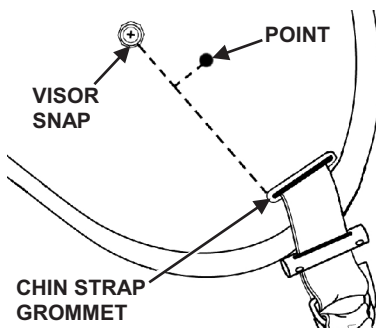

Figure 4. Medium/X-Large Wide
NOTE: Figures 4, 5, and 6 represent the **right** side of the helmet as worn.
- a. Referring to **Figure 4**, draw a line between the center of the existing visor snap on the helmet and the rearward end of the chin strap grommet.